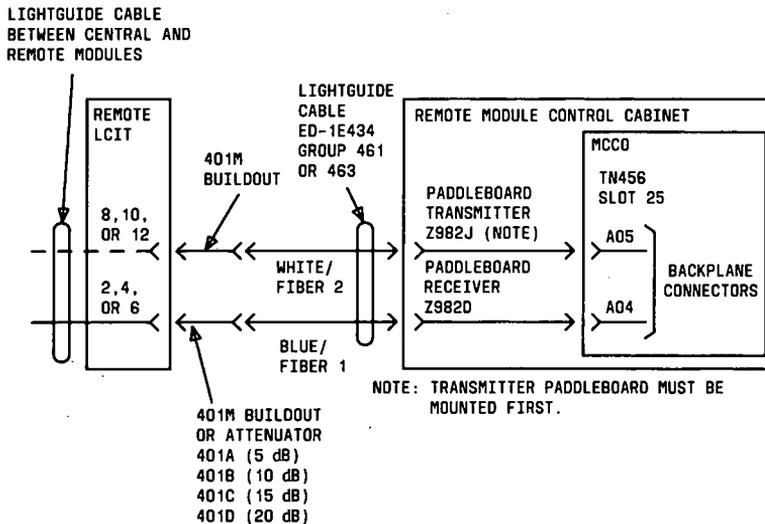

Figure 54. Remote RMI Fiber-Link Connections for Unduplicated Module Control (Phases 1 and 2)
Figures 54 and 55 show the RMI fiber link for the remote location for an unduplicated and duplicated system. Install the RMI fiber link as follows:
5. Connect the fiber-optic cables to the appropriate attenuator as shown in Figures 54 and 55.